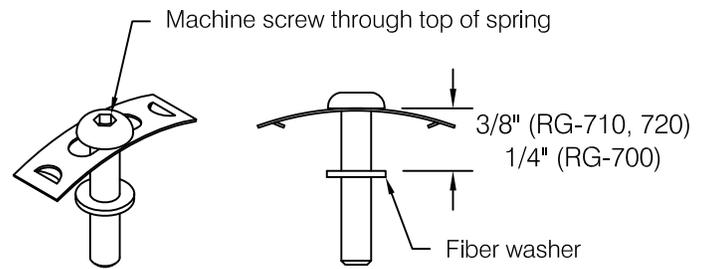
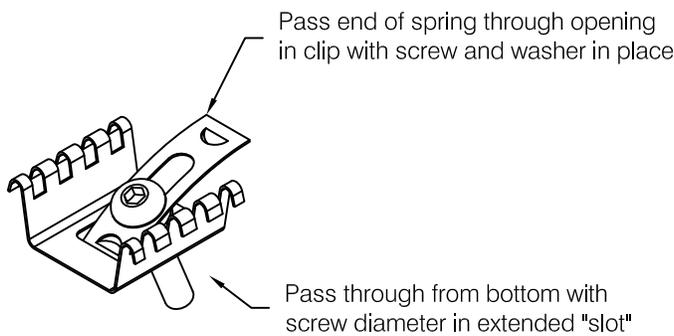
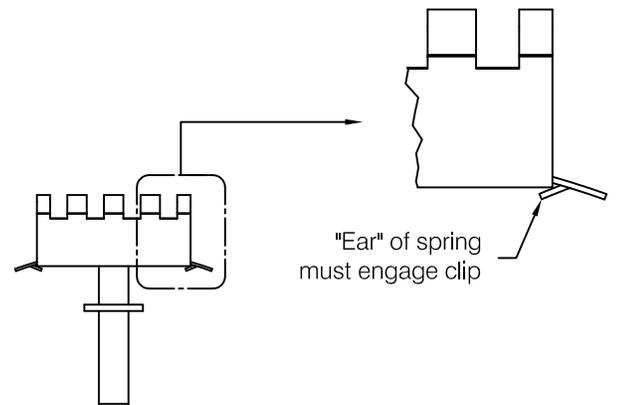

fig 4
fig 5
fig 6
- Step 7:** Place a machine screw through the slotted opening in the the hold-down spring, see **fig 4a**. Thread a fiber washer on the machine screw to prevent screw from falling out of the spring. Leave a gap between the spring and washer to allow screw to move upward during the **step 8** installation process, see **fig 4**. Position the grille sections to provide access to the bottom of the previously installed hold-down clip. Slide the spring and machine screw assembly through the opening in the base of the clip, see **fig 5**. The opening in the clip has an elongated extension that provides clearance for the body of the screw allowing the spring to be installed without removing the clip. With the spring in position inside the clip, pull down on the fastener to engage the spring retainers over the edge of the clip, see **fig 6**.